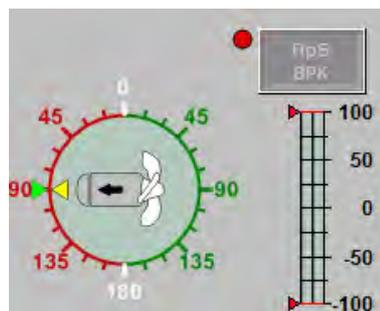

Figure 6.46: A power limited thruster indication example
- the power limited thruster indicator becomes yellow (Figure 6.46)